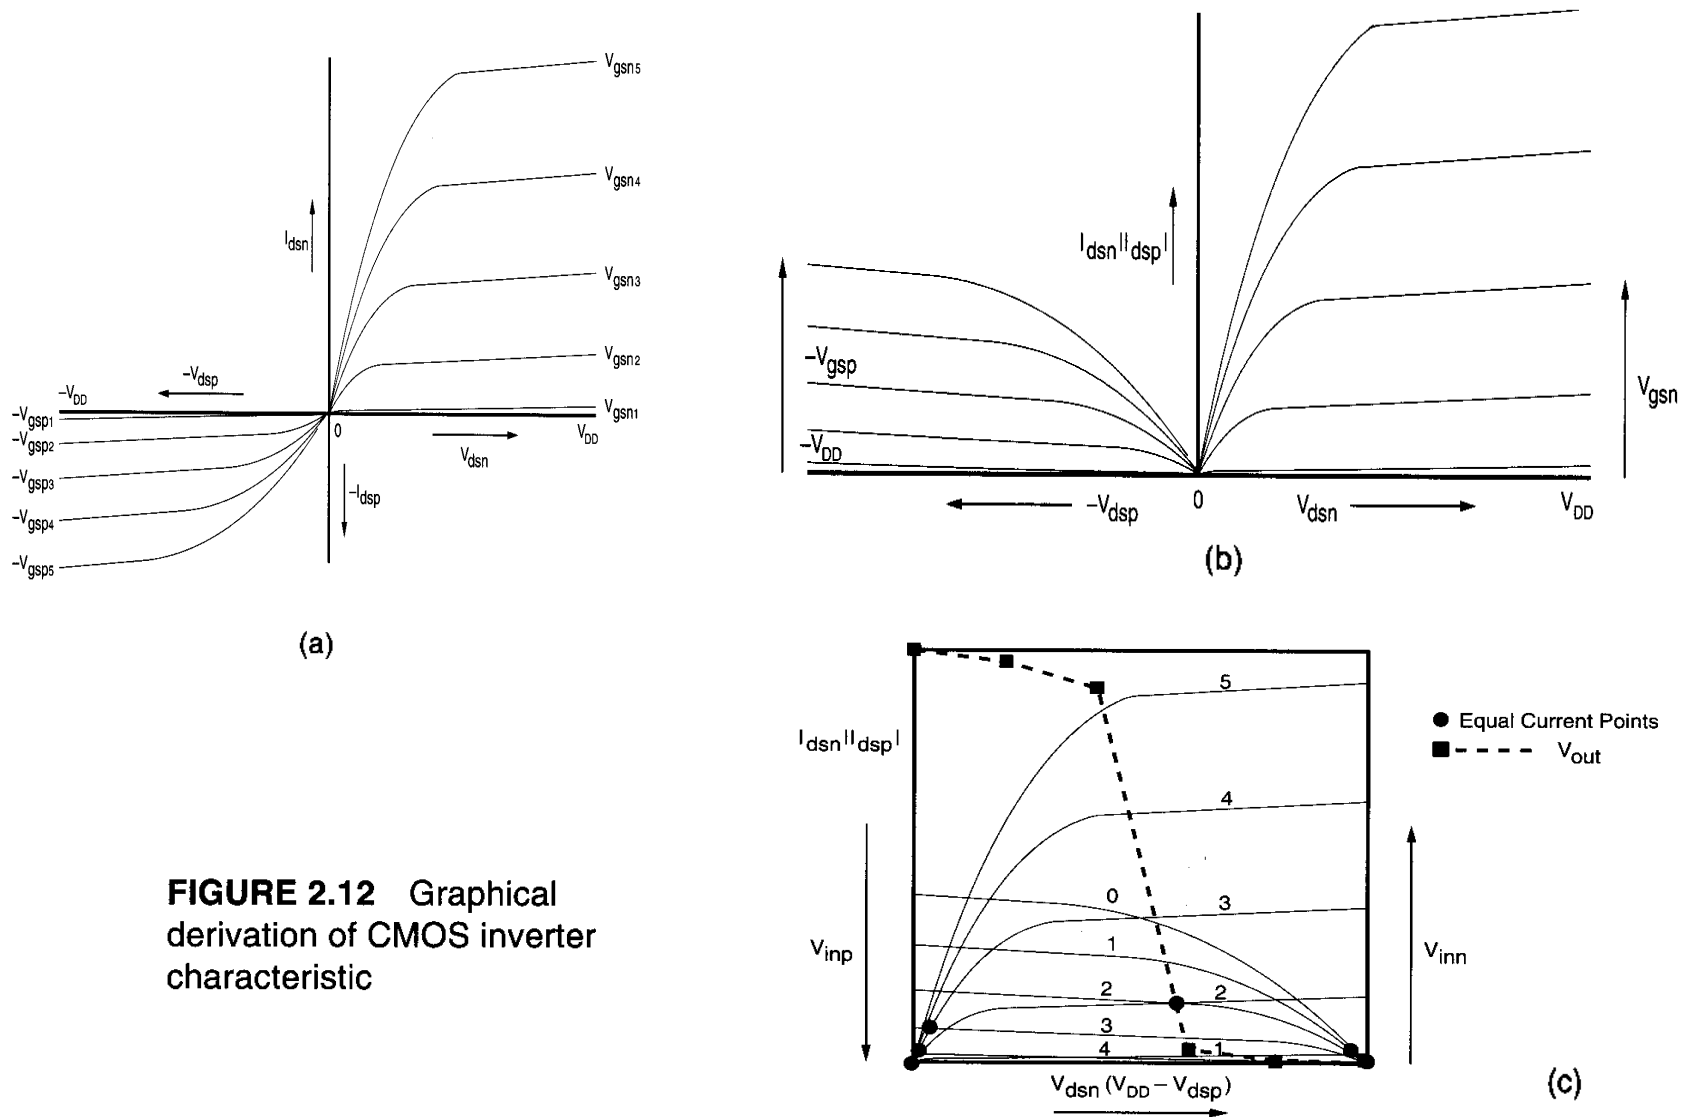

FIGURE 2.12 Graphical derivation of CMOS inverter characteristic
- Step1: obtain VI characteristics for p- and n-transistor respectively based on the equation (2.5). (see Figure 2.12(a))
- Step2: reflect the VI characteristics for p-transistor about the x-axis (see Figure 2.12(b))
- Step3: the input/output transfer curve may now be determined by the points of common V_{gs} intersection in Figure 2.12(c).